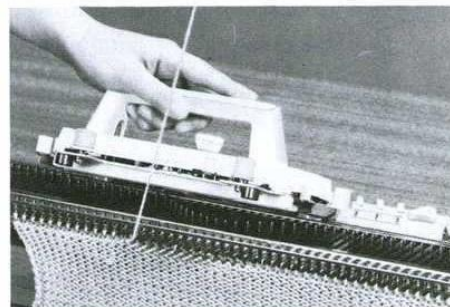

Fig.66
- (b) Lift front of the carriage clear of front runner rail and needles. (Fig.66)